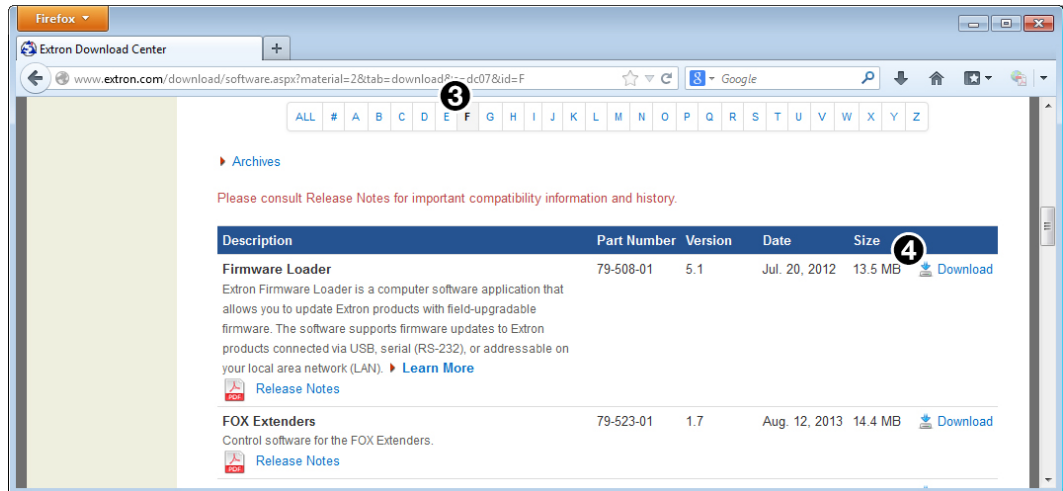

Figure 37. Firmware Loader Download on the Extron Website
3. Navigate to **Firmware Loader** (see figure 37, ③).
4. Click the **Download** link on the right that corresponds with the program (④).